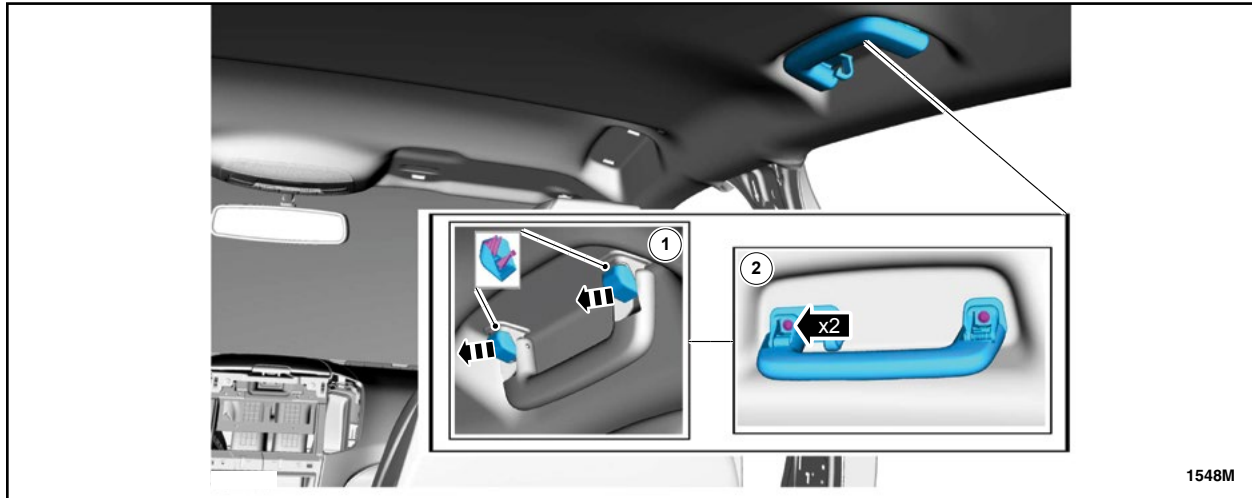

FIGURE 21
39. Remove the LH and RH rear grab handles. See Figure 21.